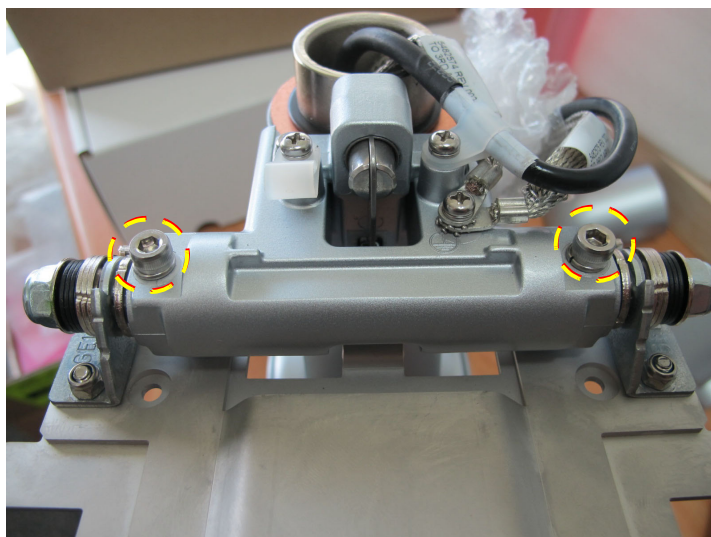

Figure 8-268 Monitor Interface Secured to Articulated Arm
NOTE: Refer to illustration on left in Figure 8-268.
- 2) While supporting the Monitor Interface bracket with one hand, release and remove the retaining screws (encircled in Figure 8-268).